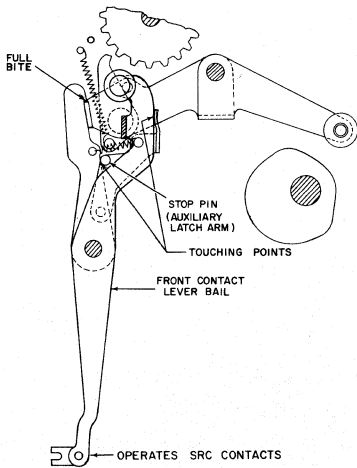

Figure 7
2. With the front contact lever bail in home position (pins down), the hook of the feed latch should have a full bite on the lug of the feed pawl operating arm with the stop pin of the auxiliary latch arm engaging the edge of the feed latch (Figure 7). At this time the upper curved end of the auxiliary latch arm should be just touching the front contact lever bail. Form the curved end to obtain the adjustment.